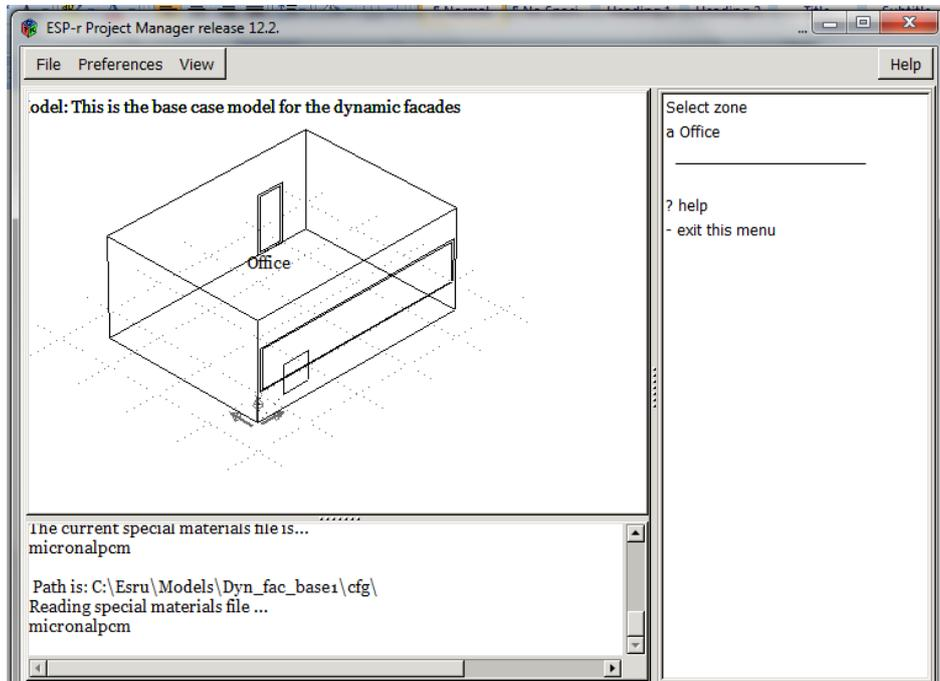

Figure 11
Step 11: ESP-r will then ask where you wish to put the phase change material which in our case was the office, therefore click >office. (figure 11)